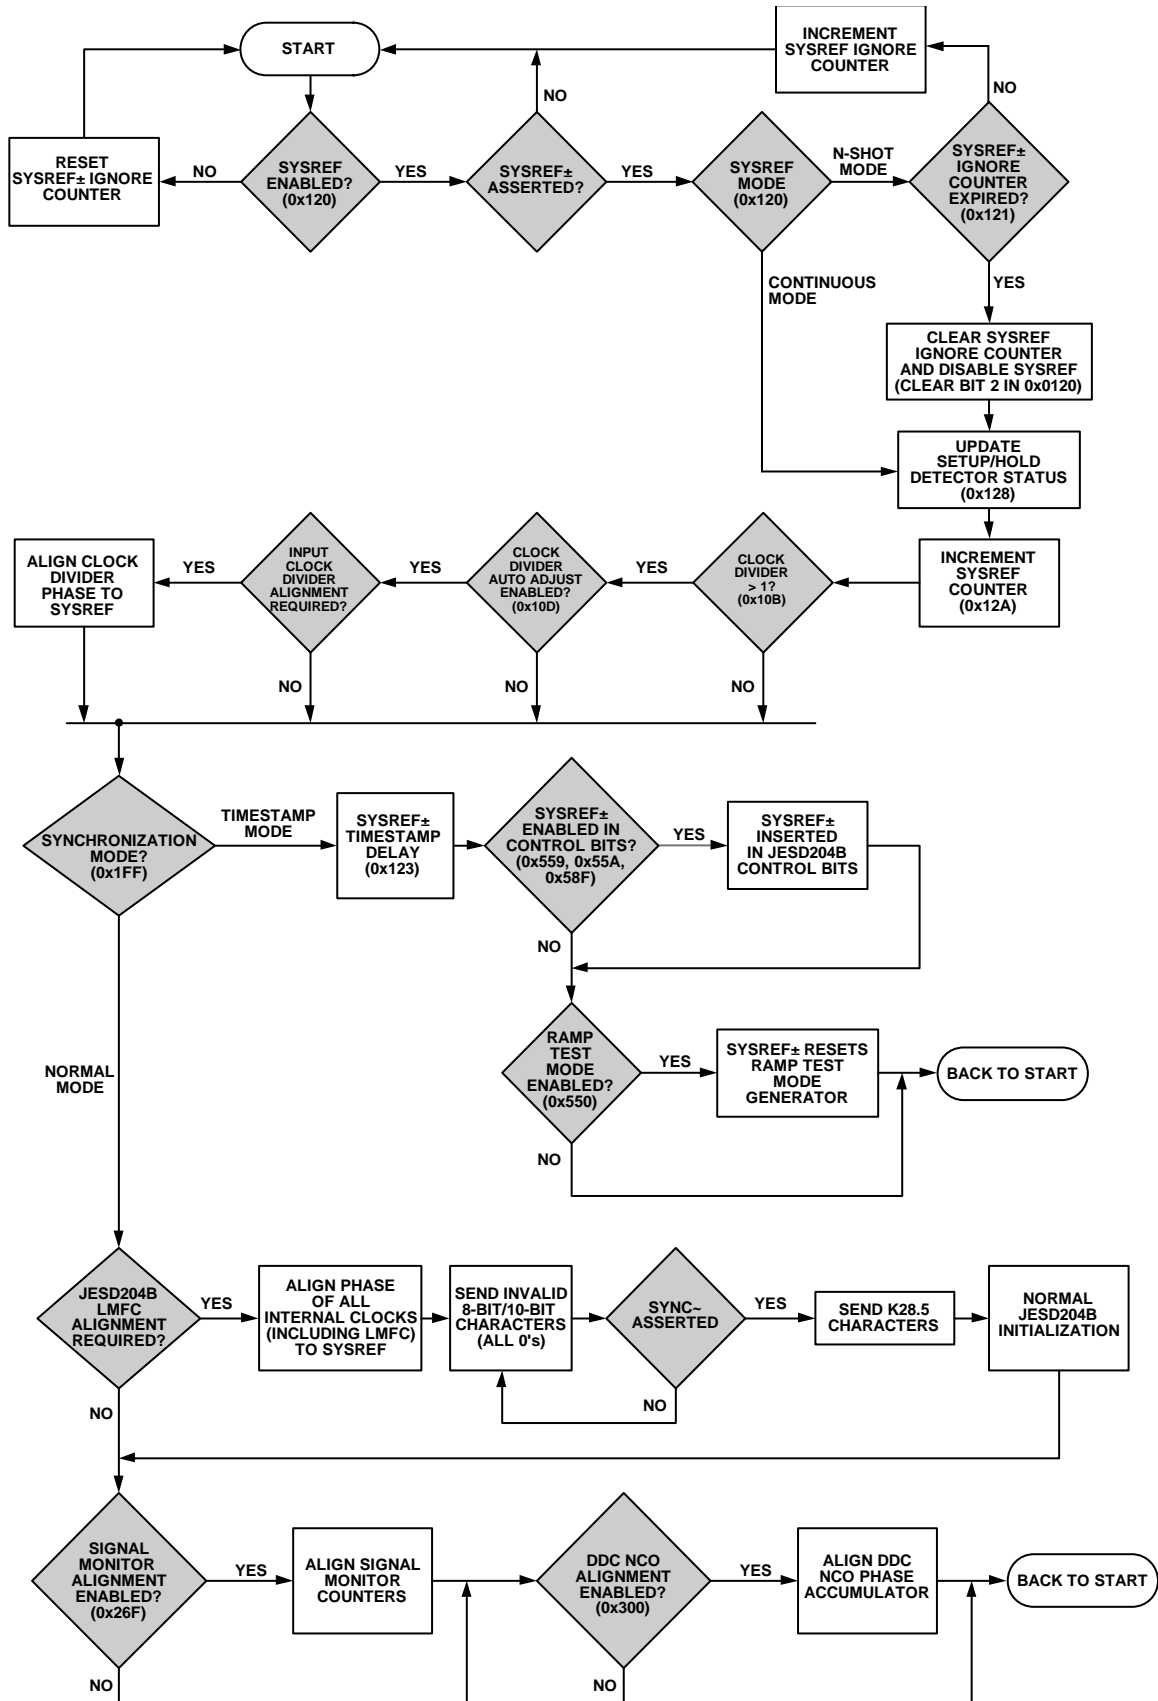

Figure 175. SYSREF± Capture Scenarios and Multichip Synchronization
The flowchart shown in Figure 175 describes the internal mechanism for multichip synchronization in the AD9680.
The default state of the chip synchronization mode bit is 0, which configures the AD9680 for normal chip synchronization. The JESD204B standard specifies the use of SYSREF± to provide deterministic latency within a single link. This same concept, when applied to a system with multiple converters and logic devices, can also provide multichip synchronization. In Figure 175, this is referred to as normal mode. Following the process outlined in the flowchart ensures that the AD9680 is configured appropriately. Consult the logic devices user intellectual property (IP) guide to ensure that the JESD204B receivers are configured appropriately.